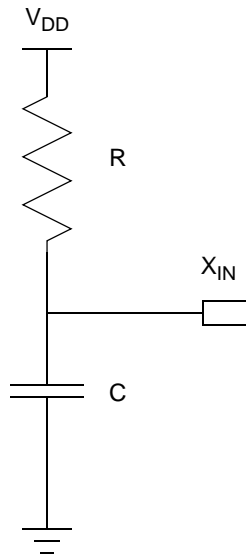

Figure 35. Connecting the On-Chip Oscillator to an External RC Network
The External RC oscillator mode is applicable to timing insensitive applications. Figure 35 on page 169 displays a recommended configuration for connection with an external resistor-capacitor (RC) network.